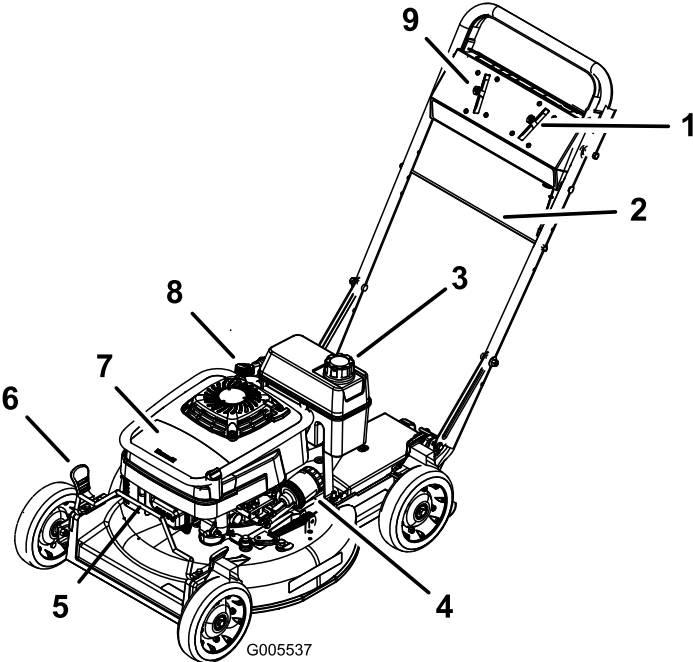

Figure 8
4. Move the ground speed control to the Neutral (N) position (Figure 8).